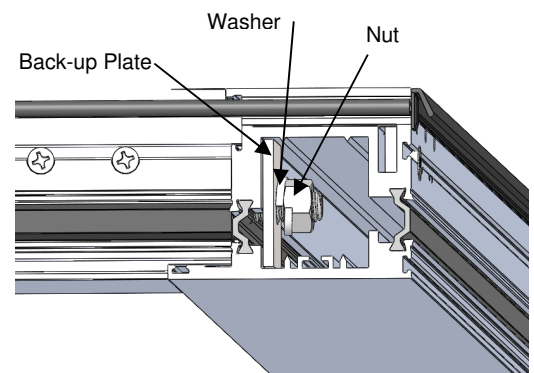

Figure 19:
- Slide the back-up plate over the threaded rod. Followed by the washer and nut (Figure 19).